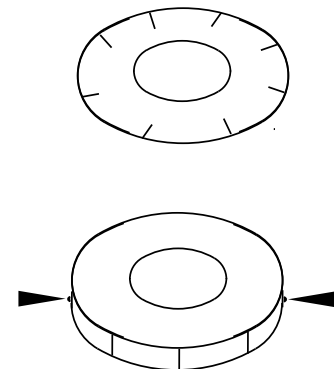

Figure 11b
3. As an alternative to step 2, to have an overhang, the flashing/support is trimmed approximately 2" larger in diameter than the marked outline (see Figure 11b). It is then slit and folded to fit down over the chimney. The screws are installed from the side once it is siliconed in place, as per step 6.
6. Place the trimmed flashing/Support over the Flexible Liner. Lower the Flashing/Support so that the plate comes to rest on the factory-built chimney. Press the plate firmly into the silicone to create a good seal, and secure into place with #8x3/8" stainless sheet metal screws, as per Figures 11b or 12.
7. Slide the Liner round Top and the Flexible Liner back through the Flashing/Support assembly until the skirt of the Round Top comes in contact with the collar of the Flashing/Support. Install the four (4) sheet metal screws (provided), using the prepunched holes in the flashing collar and through the flex and Round Top. Apply silicone sealant to any exposed lances, holes or screws.